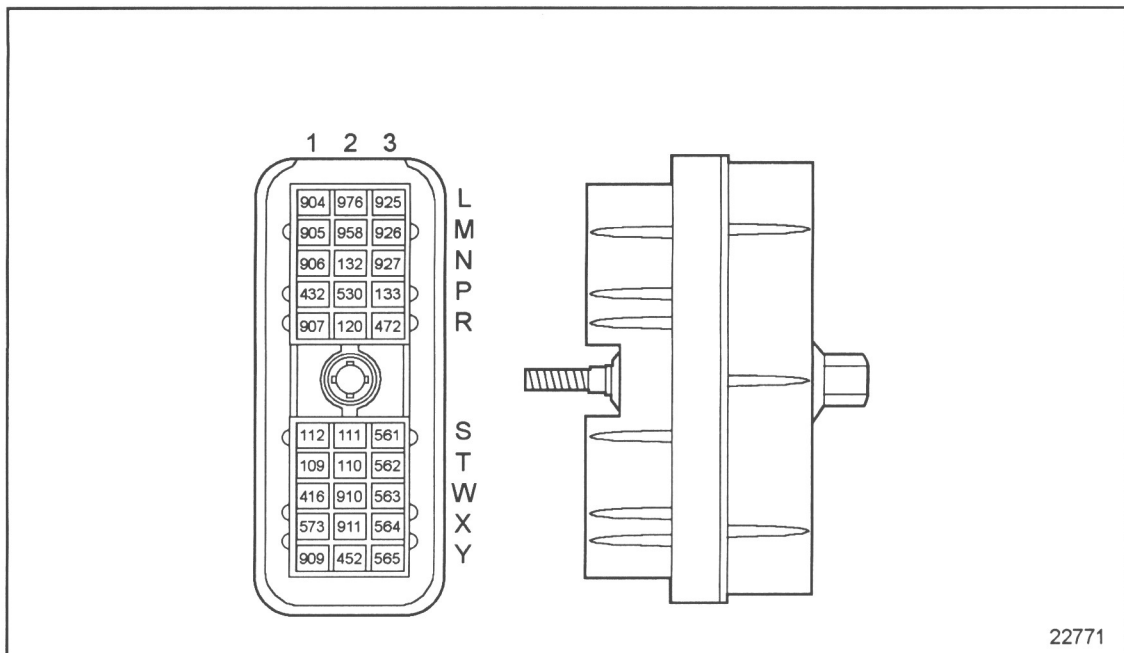

Figure 23–3 ECM Engine Harness Connector
4. Measure resistance between sockets R3 and W1 on the engine harness connector. See Figure 23–3.